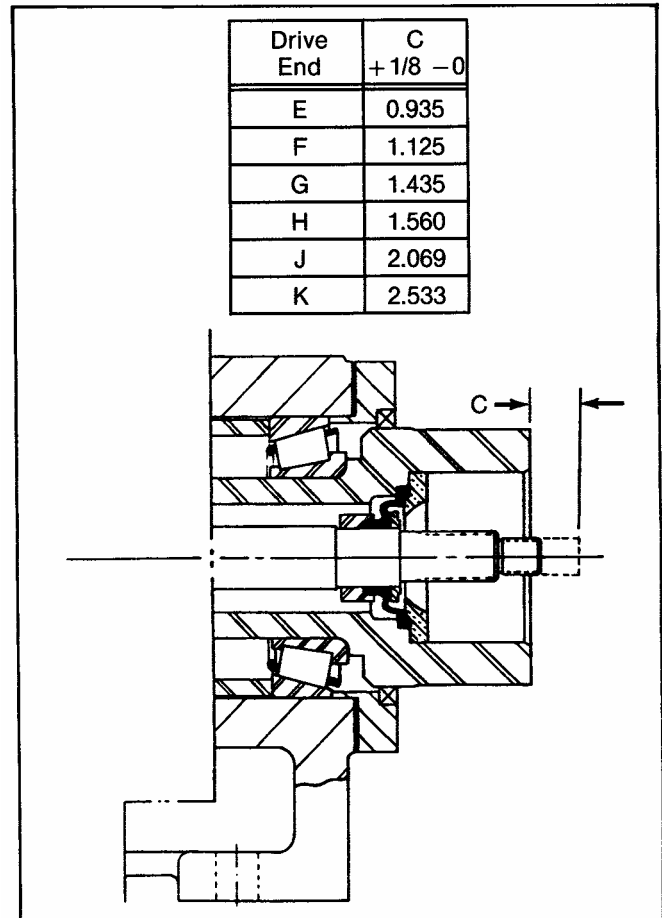

Figure 4-7. Gear Joint Installation
1. If not already in place, slip stator clamp rings (36) on both ends of stator (30), and install retaining rings (35) in grooves provided on both ends of stator.
2. Place stator gasket (34) in recess in end of suction housing:
a. On J335 model, stator gasket (34) will be installed in recess in adapter housing (25B).
b. On F012, G022, H036, and K115 models, stator gasket (34) will fit recess in adapter flange (25A) and adapter flange gasket (24A) will fit recess in suction housing.
3. Move the rotor/stator/connecting rod assembly in position, and insert connecting rod through the suction housing and drive shaft. Align stator with bore in suction housing, and slide stator in place, checking to insure that stator gasket (34) remains properly positioned.
4. Check the dimension "C" between the end of the connecting rod and face of the drive shaft as shown in fig. 4-7. For proper assembly of the drive end gear joint, this dimension should be no less than that shown in column C, and should not exceed the amount in column C by more than 1/8 inch. Reposition rotor/stator assembly in or out of suction housing as required to achieve the proper dimension.
6. Align holes in clamp ring (36A) with threaded holes in suction housing, and thread four hex head screws (R) with lockwashers through holes in clamp ring into threaded holes in suction housing. Tighten hex head screws evenly.
1. Check to see that connecting rod extends beyond face of drive shaft by amount specified in column C of fig. 4-7. (See Section 4-31, step 4.)
2. Fit the gear joint seal (13) on the connecting rod (38). Push the seal firmly in place on the connecting rod so that the neck on the seal seats in the recess in the seal retainer component of the connecting rod.
3. Apply a film of gear joint grease to the inside of the gear joint seal and to the flat face of the seal support (12). Slide the seal support (12) onto the connecting rod such that the flat face fits against the seal.
4. Apply a film of grease to the concave spherical surface of the secondary thrust plate (11), and slowly push the thrust plate into the drive shaft until it rests firmly against the seal.
5. Apply a film of grease to the gear ball (10) splines and spherical surfaces, and install gear ball on connecting rod, counter-bored end first (end without splines). Gear ball should slide freely on rod until it contacts shoulder on rod. Install connecting rod lock nut (9) and tighten against gear ball. While tightening lock nut, prevent connecting rod from turning by carefully holding with pipe wrench or vise grips through inspection ports in suction housing.
6. Apply liberal amount of grease to gear ball teeth and ring gear (8) teeth, and slide ring gear into the drive shaft assembly. Keyways in ring gear should be facing out, and one of the keyways should be aligned with drilled and tapped holes in outside diameter of drive shaft.
7. Place keys (7) in keyways of the ring gear. A small amount of grease may be used to hold the keys in place. The flat face of the ring gear should be approximately flush with the face of the drive shaft.
8. Place primary thrust plate (6) in drive shaft head (4), aligning slot in outside diameter of thrust plate with pin in drive shaft head. When the thrust plate is properly seated, the face of the thrust plate should be flush with the face of the drive shaft head.
10. Place O-ring (5) in the groove on drive shaft head (4). Align the keyways in the drive shaft head with the keys in the ring gear, and insert the head into the drive shaft assembly.